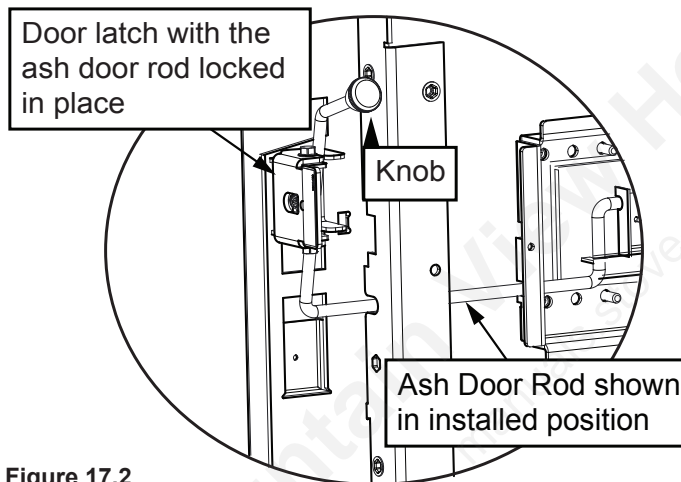

Figure 17.2
10. Add knob to handle rod (**Figure 17.2 on page 17**).